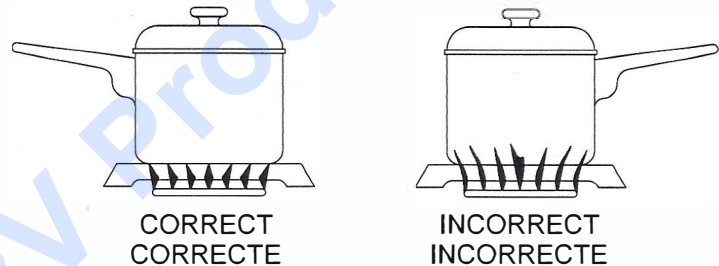

FIGURE 2
- a. Never extend the flame beyond the outer edge of the utensil. A higher flame simply wastes heat and energy. See Figure 2.